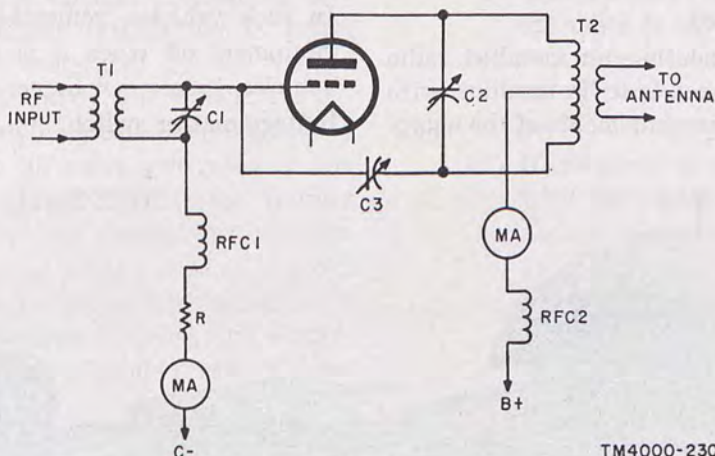

Figure 59. RF power amplifier.
a. The troubles encountered in an RF power amplifier are similar in some respects to those found in receiver RF amplifiers. A schematic diagram of an RF power amplifier is shown in figure 59. It is not necessary to make voltage measurements because milliammeters are a permanent part of the circuit. However, if an abnormal condition is indicated by the meter readings, resistance measurements must be made to determine whether there is an open or a short circuit.